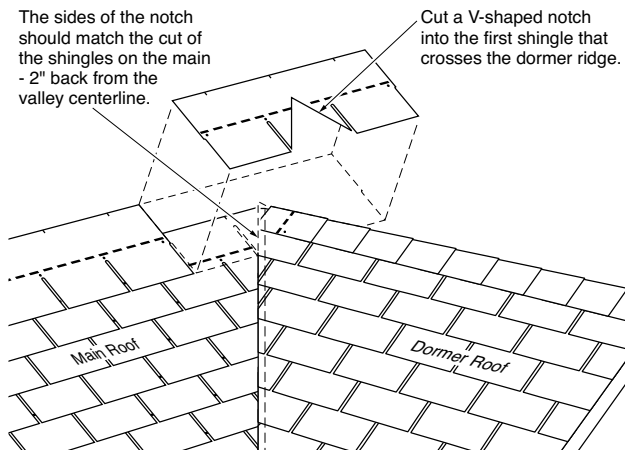

Figure 9-9: The V-notched shingle being fitted over the dormer ridge.
- Cut into the first shingle that crosses above the ridge of the dormer a V-shaped notch that fits over the ridge of the dormer. The sides of the notch should match the cut of the shingles on the field of the roof that were cut back at the valley centerline. Cut this notch into the headlap area of the shingle. Shingles on the right side of the dormer should be applied so that course pattern and horizontal alignment conform to the position of the V-notched shingle (Figure 9-9).